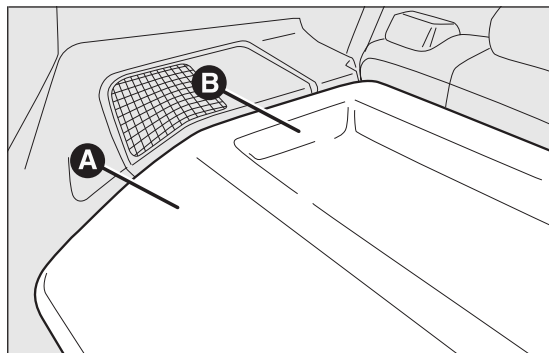
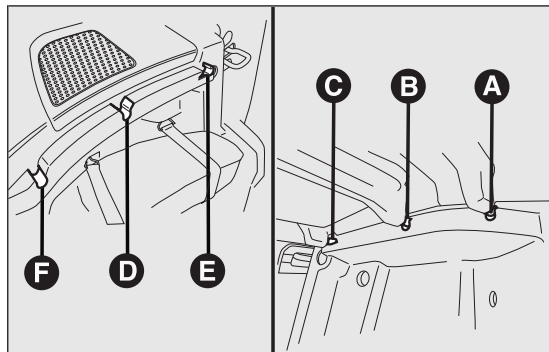

fig. 71
fig. 72
The parcel shelf fig. 71 consists of two parts.
- ☐ open the tailgate and lift the front part A fig. 71 by releasing the pin A fig. 72 from the seat F fig. 72;
- ☐ lift the rear part B fig. 71 by releasing the pins B and C fig. 72 from the seat D and E fig. 72.